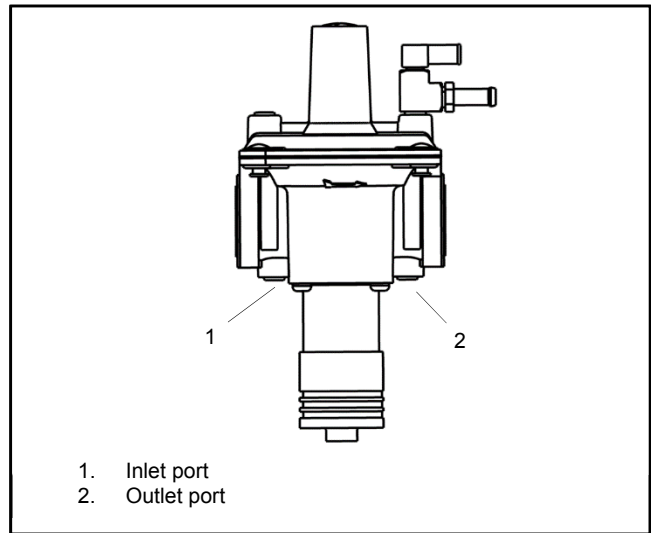

Figure 3-3 Fuel Pressure Regulator
4. To check the inlet pressure, connect a manometer to the inlet port of the fuel pressure regulator. See Figure 3-3.
5. To check the outlet pressure, connect a manometer to the outlet port of the fuel pressure regulator. See Figure 3-3.